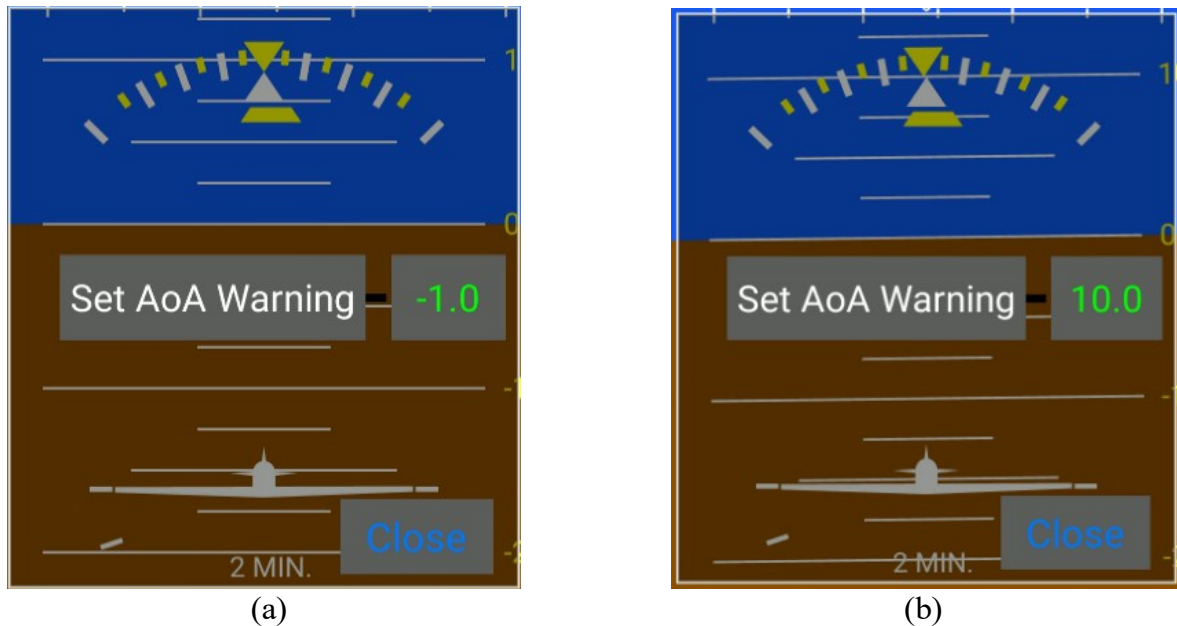

Figure 7: (a) Uncalibrated FlySense device. (b) Calibrated FlySense device (i.e. stall angle has been determined at 12° and warning angle has been set at 10°).
Step 1: Click on EFIS TA application “MENU” → “Miscellaneous” → “Calibrate AoA” option. This will bring up the window shown below in Figure 7(a); a value -1.0 in the mid-right part of the window signifies uncalibrated FlySense AoA PRO.
Step 2: While in flight mode, gradually reduce aircraft speed, until stall buffet is reached and press the “Set AoA Warning” button. This will automatically determine and store the aircraft stall angle and will set the warning angle at a value of two degrees (2°) less. In the example case shown above in Fig 7(b), stall angle has been determined to be 12° and the warning angle has been set to 10° .